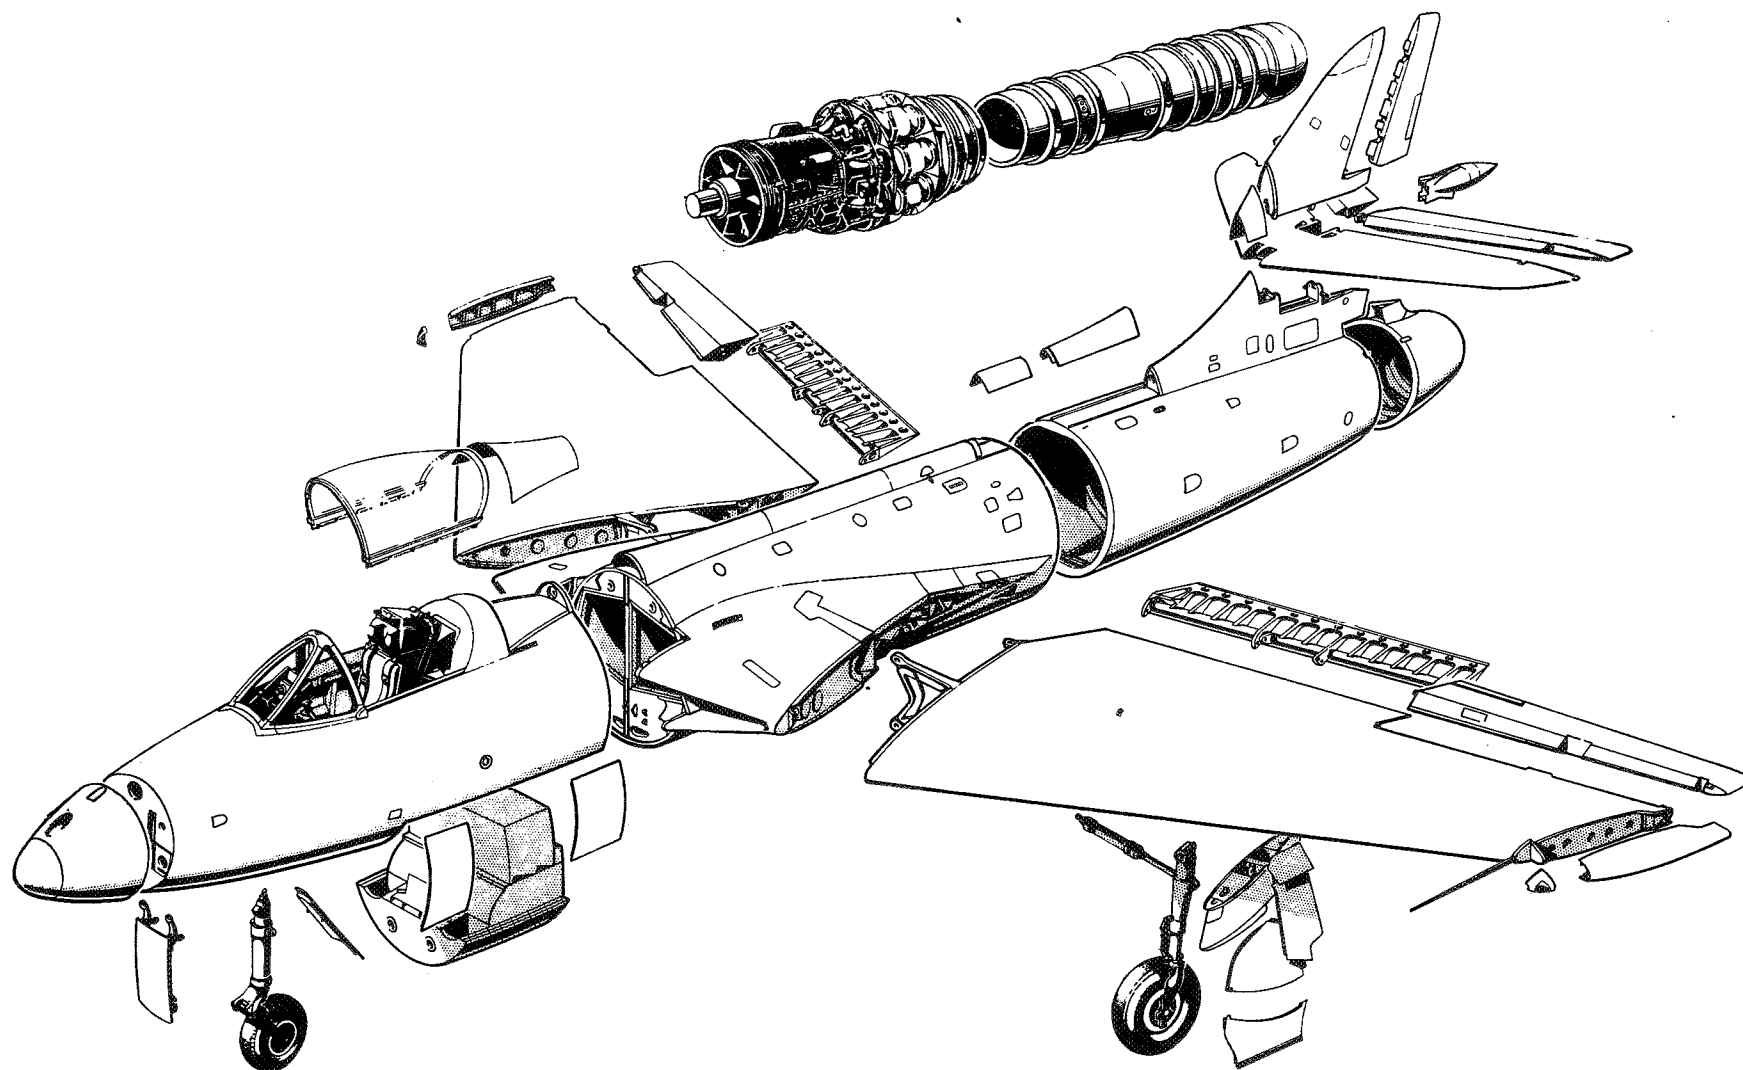

Fig. 2. Major components
4. The breakdown points for dismantling the aircraft are shown in fig. 2. The recommended order of dismantling is as follows:—
- (1) Check the alignment of the structure.
- (2) Jack up the aircraft and level it transversely, by means of the levelling bar (Stores Ref. 26FX/95142) and spirit level placed across the hood rails.
- (3) Place a levelling spigot (Stores Ref. 26FX/95143) into each of the levelling points attached to the fuselage structure in the port wheel bay and level the aircraft longitudinally with a straight edge and spirit level placed across these two spigots.
- (4) Check the incidence and dihedral of the wings, using the gauges quoted in Table 1.
**Packing dimensions (fig. 2)**